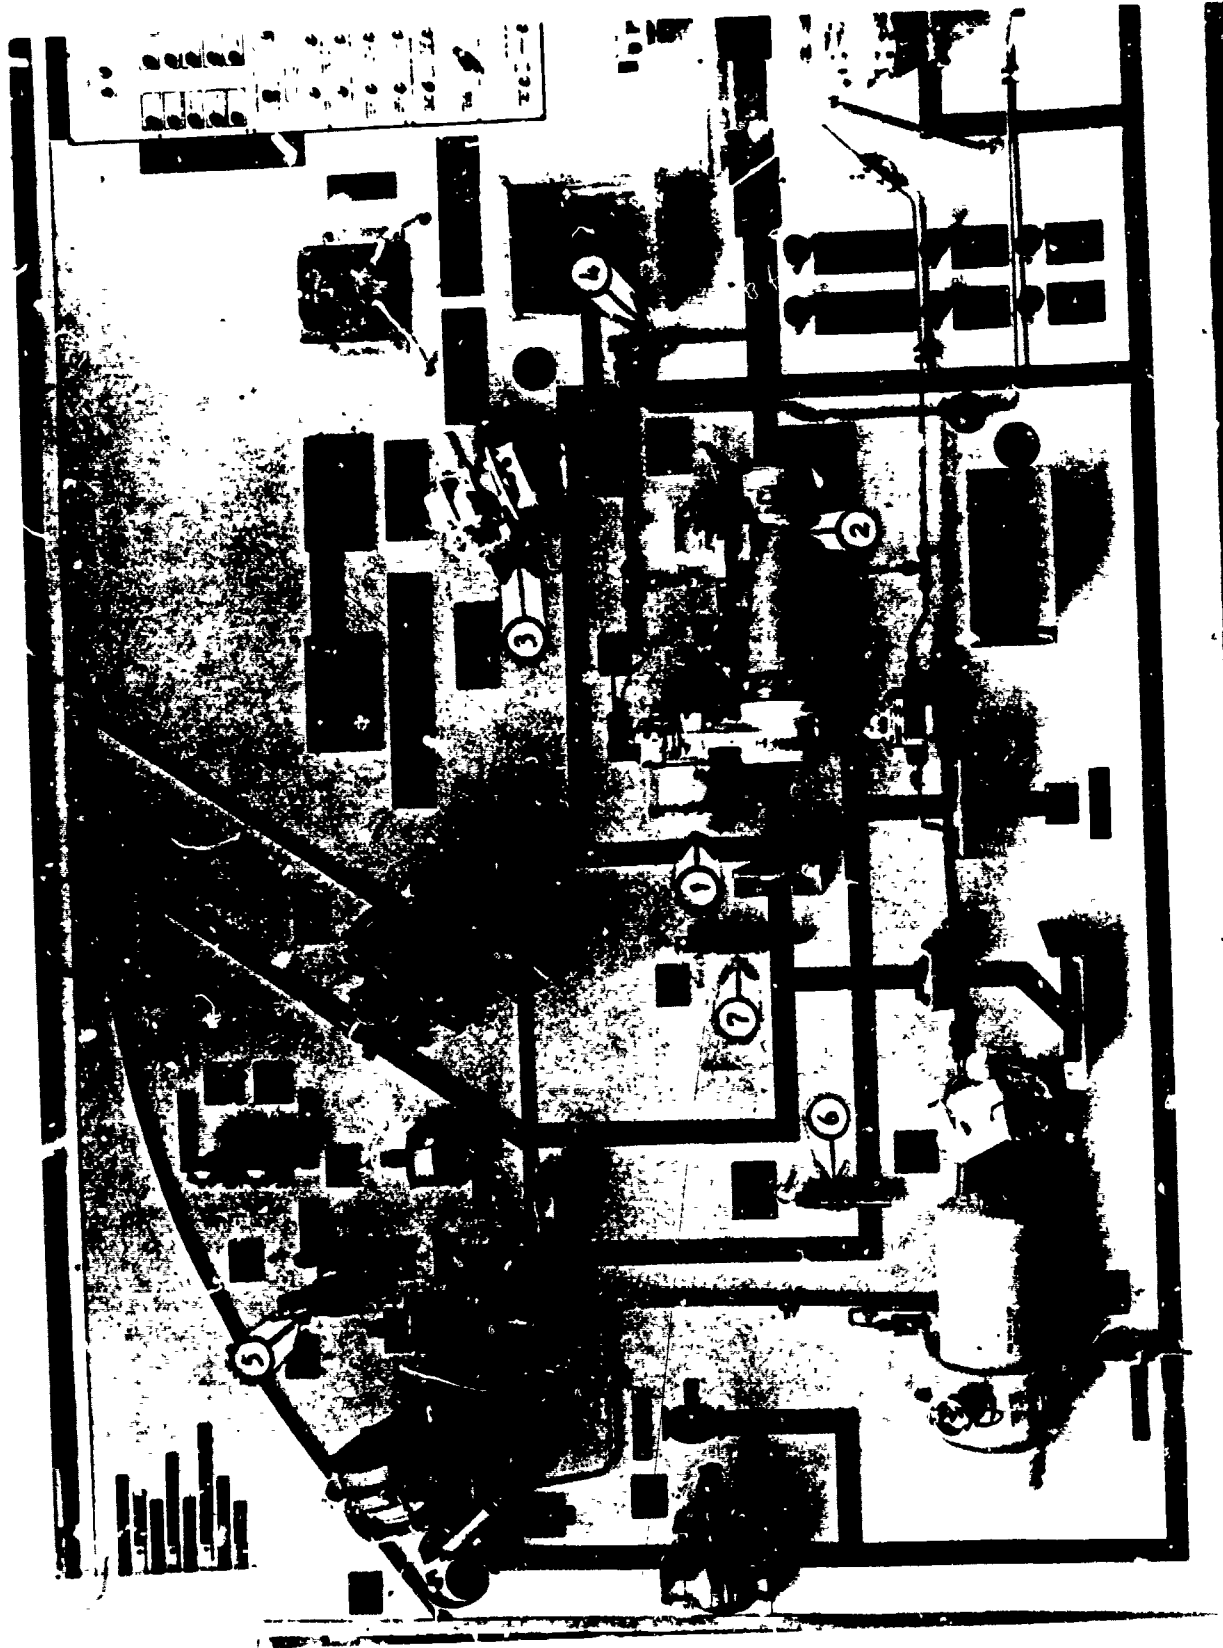

Figure 2.
b. Using the trainer and figure 2, find each of the numbered parts. Write the number that goes with the name of each of these parts in the blank space to the left of the name. As you find these parts follow the flow of air through the hot and cold air systems.
ANSWERS FIGURE 2